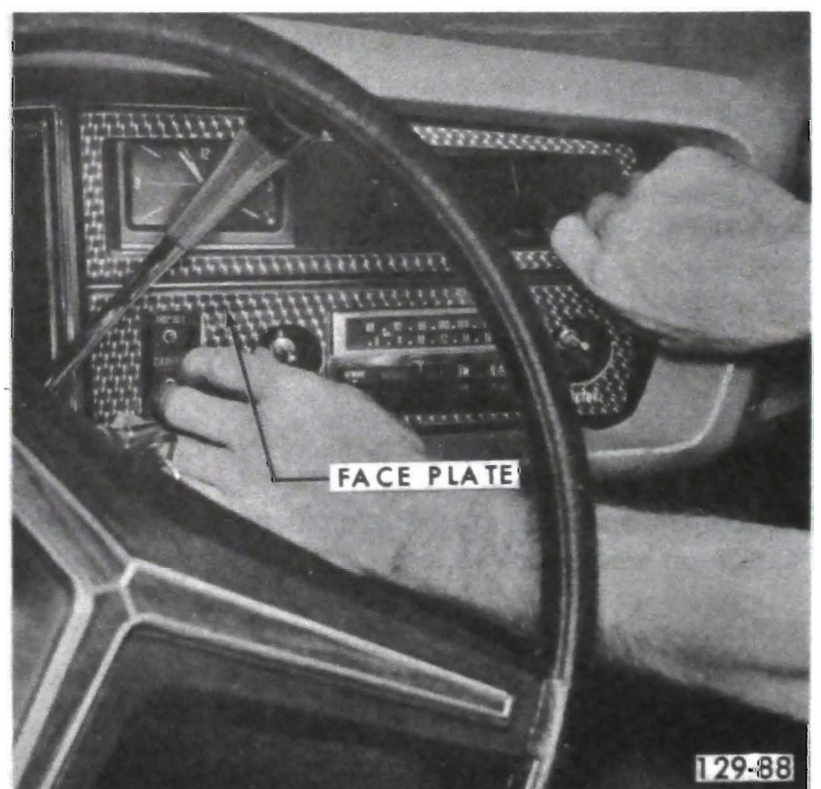
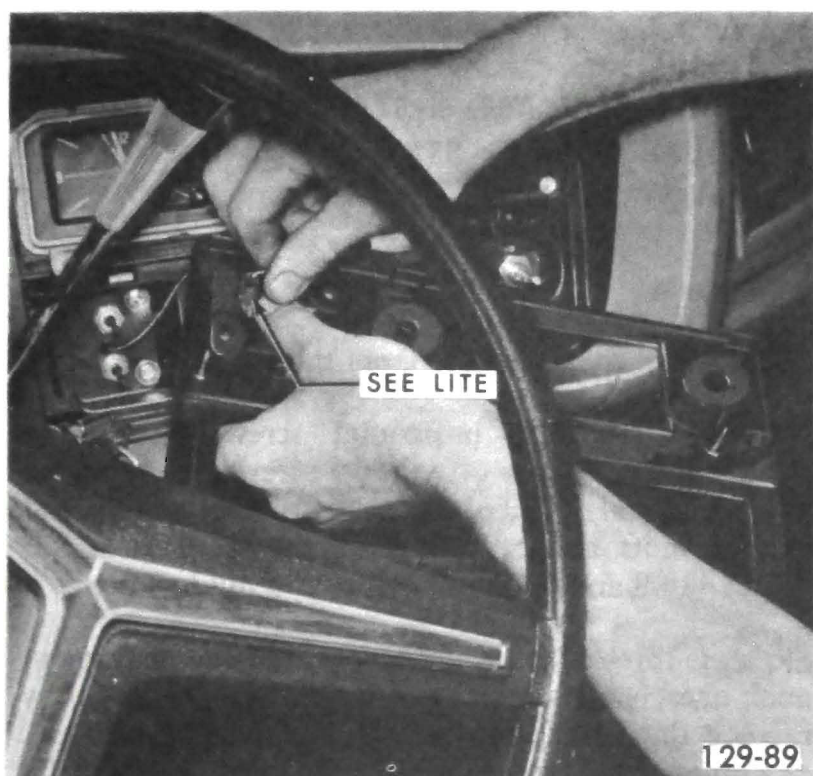

Figure 129-3
Figure 129-4
2. Remove face plate by grasping edges revealed by knob absence and pull directly outward. See Figure 129-3. Cars equipped with trip set and/or speed alert have a see lite which must be disconnected before the face plate is completely removed. This is done by separating the connector as shown in Figure 129-4.
5. Install trip set and/or speed alert, if equipped, seelites into face plate and install face plate. See Figures 129-4 and 129-3.